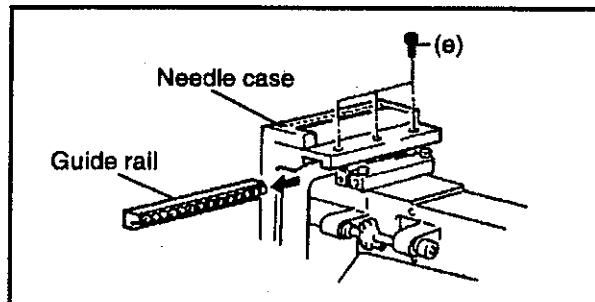

FIG.7
- (9) Remove three retaining screws (e) on the top of the needle case and draw out the guide rail from the right side (Fig.7).